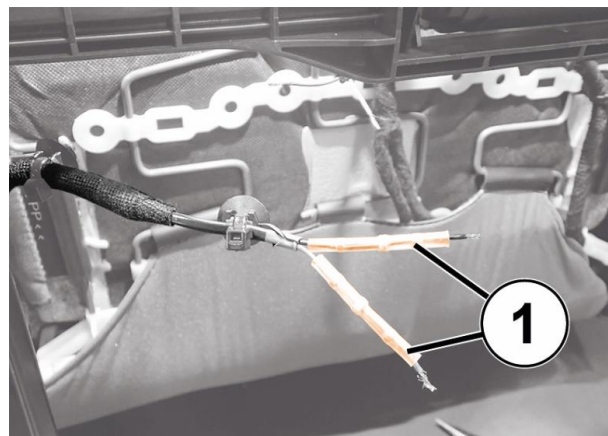

Figure 6 – Strip Wire Insulation and Insert Tubes
9. Strip the cable terminals and insert the heat-sealing tubes (1) (Figure 6).